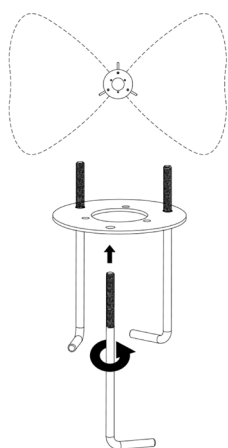

Fig. 1
1. Fit the 3 pieces of L shaped M8 screws into the holes of the plate (Fig. 1), leave 1.77" of the screws above the plate (Fig. 1.2).